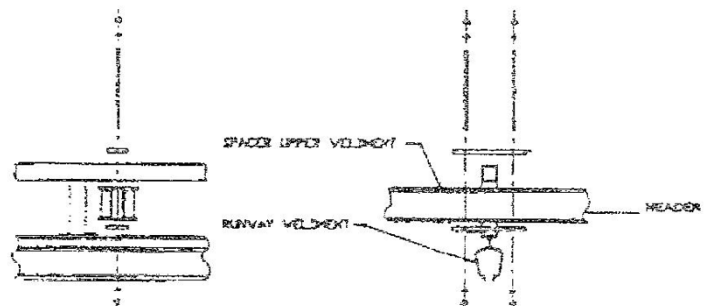

FIG 2
- 2.1 Place runway in the position that will be supported by two upright assemblies. (FIG 2)